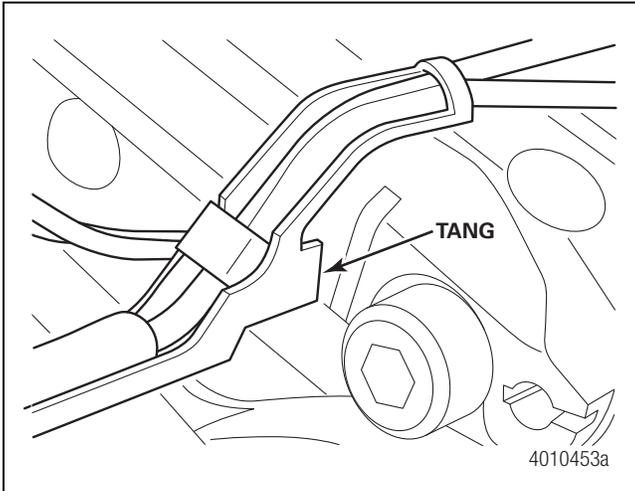
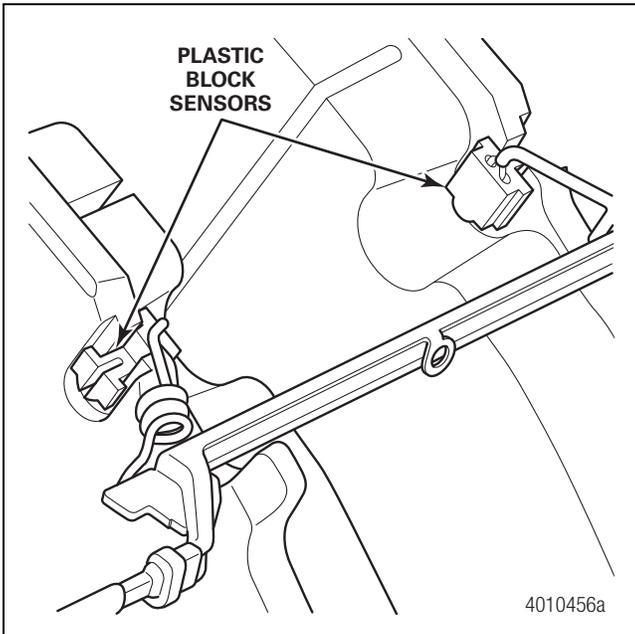

Figure 5.10
Figure 5.11
- If a pad wear warning indicator (PWWI) is present: Lift the PWWI assembly and disengage the tang from the housing assembly. Do not remove the plastic block sensors from their locations in the pads unless the PWWI assembly is being replaced. Refer to Section 9 for PWWI service. Figure 5.10 and Figure 5.11.